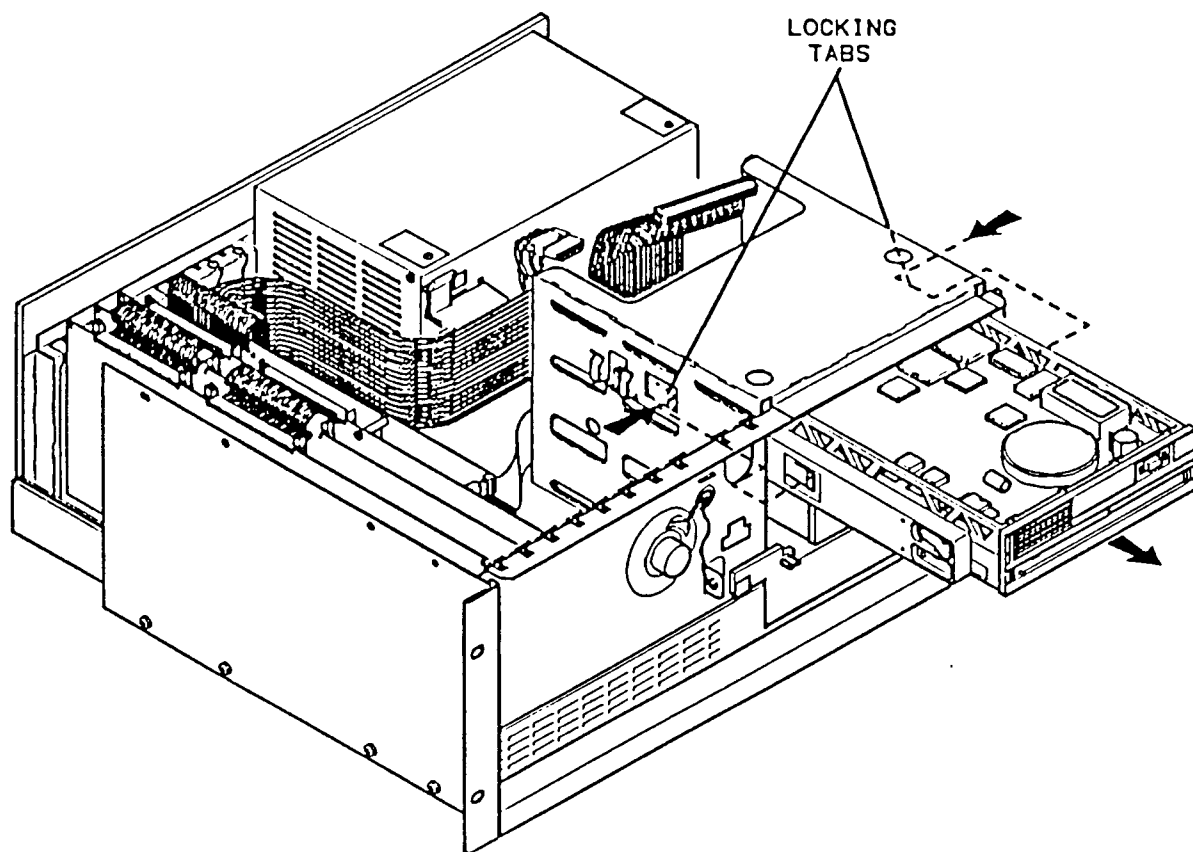

Figure 4. Removing 44MB Disk Drive
8. Remove the 44MB Disk drive by first disconnecting the two cables on the rear of the drive. Then simultaneously push in the two plastic locking tabs that hold the the drive in place while exerting a forward pressure on the tabs. This will cause the drive to move towards the front of the Smart Interface. Refer to Figure 4 for location of the lock tabs.